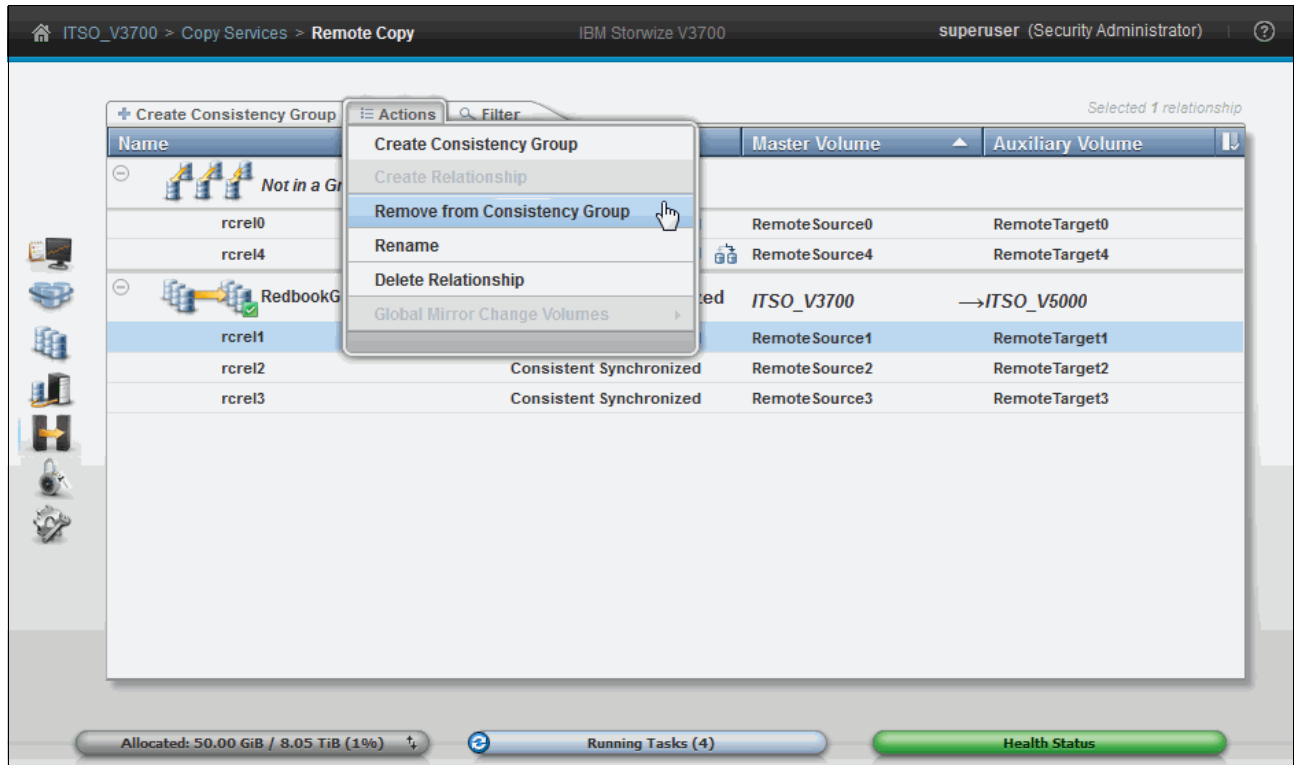

Figure 10-143 Remove Remote Copy relationships from a consistency group
1. Select the Remote Copy relationship and click **Remove from Consistency Group** from the **Actions** menu, as shown in Figure 10-143. Alternatively, right-click the relationship to be removed.